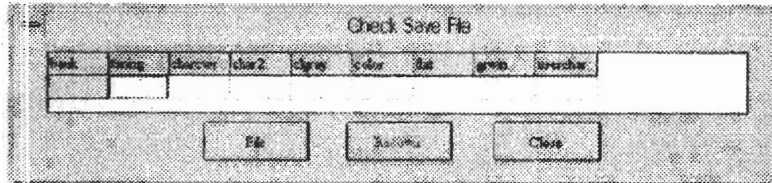

Figure 7-7
- (1) Select “Save File Check (S)” from the “File (E)” pull-down menu. The dialog in Figure 7-7 is displayed.